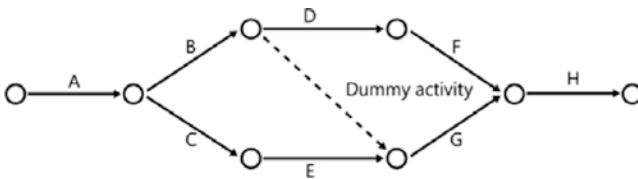

Figure 4-8. Activity-on-arrow (AOA) diagram
■ **Exam Tip** The other way to graphically represent a network diagram is called the arrow diagramming method or the activity-on-arrow (AOA) diagram. The AOA diagram is not used very much in the project management world, because it seems to run counter to the logical representations of activities and the relationships between them. Because the activities themselves are represented by arrows, it becomes a problem to also use arrows to show relationships between activities; so where there are multiple predecessors to an activity, a dummy activity is used, represented by a dotted line. Figure 4-8 shows an example of an AOA diagram with a dummy activity showing a relationship between Activities B and G. On the exam, if you find a reference to a dummy activity, you know it is referring to AOA diagrams.